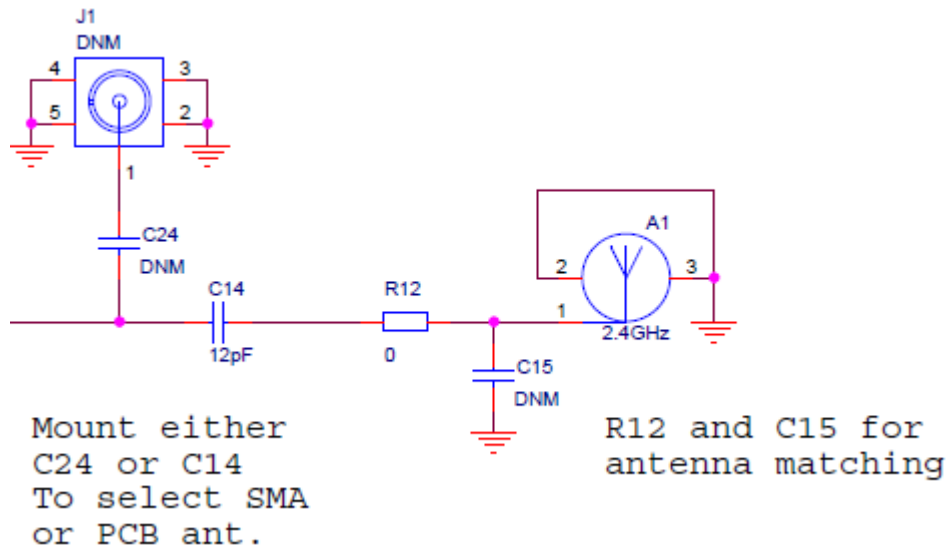

Figure 2. Mount C24 and J1 to RF Connector
6. Unmount C14. Mount C24 and J1 to select RF connector (J1) as the RF output path, as shown in Figure 2.
4. Unmount C14. Mount C24 and J1 to select the RF connector (J1) as the RF output path. See Figure 2.